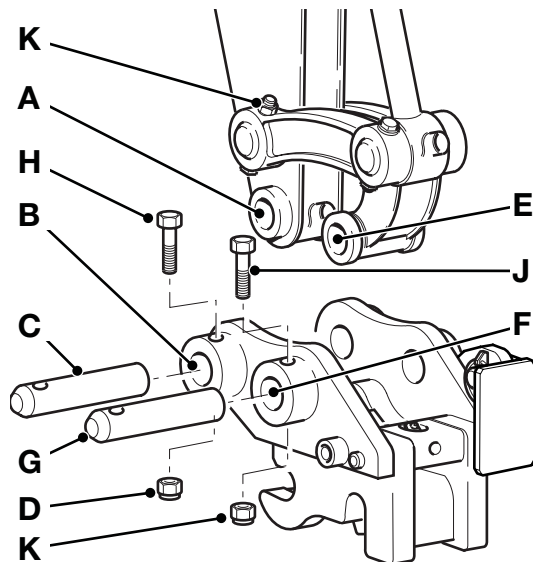

Fig 104.
- 1 Before the Quickhitch is installed, make sure that the tipping lever locking bolt assembly is attached with the nut at position **K**. ⇒ Fig 104. \(□ 279\).